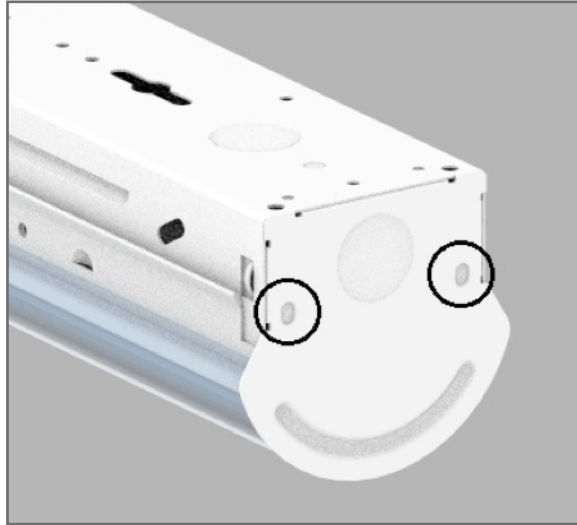

FIGURE 26
1. Remove the two oblong knockouts (circled in Figure 26) on the metal end cap.